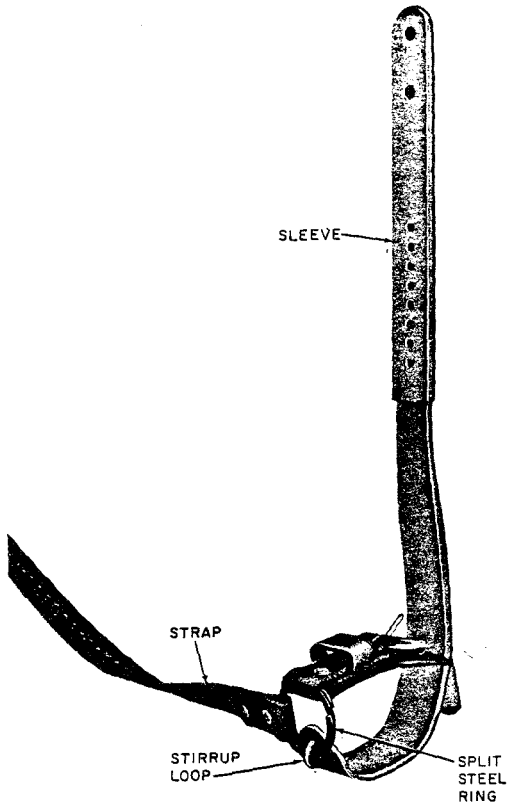

Fig. 6—Foot Straps Attached to Climbers
3.11 The E climber foot straps are attached to the climber so the buckle assembly will be across the foot instep when fastened. Figure 6 shows the foot strap on the climber.
- (1) Place the split steel ring of the E climber foot strap on the climber stirrup loop and then place the foot strap and buckle assembly on the split ring.
- (2) Place the B climber strap and pad on the sleeve as shown in Fig. 6. The strap should be placed so the tongue will point toward the back of the leg when buckled.
- (3) Place the sleeve on the shank of the climber, step on the stirrup and buckle the foot strap so the stirrup is held firmly against the arch of the shoe. Adjust the sleeve to a position that is most comfortable.
- (4) Place one of the slotted hexagon head machine screws through the hole in the sleeve that is aligned with the threaded holes in the climber and tighten the screw to hold the sleeve in place.